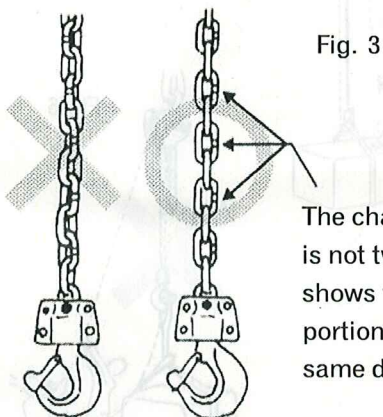

Fig. 3
- 3) The load chain twisted should not be loaded, as the bearing capacity of the chain will be reduced in a twisted state. Be sure to bring the load chain into straight state before applying a load. (Fig. 3)